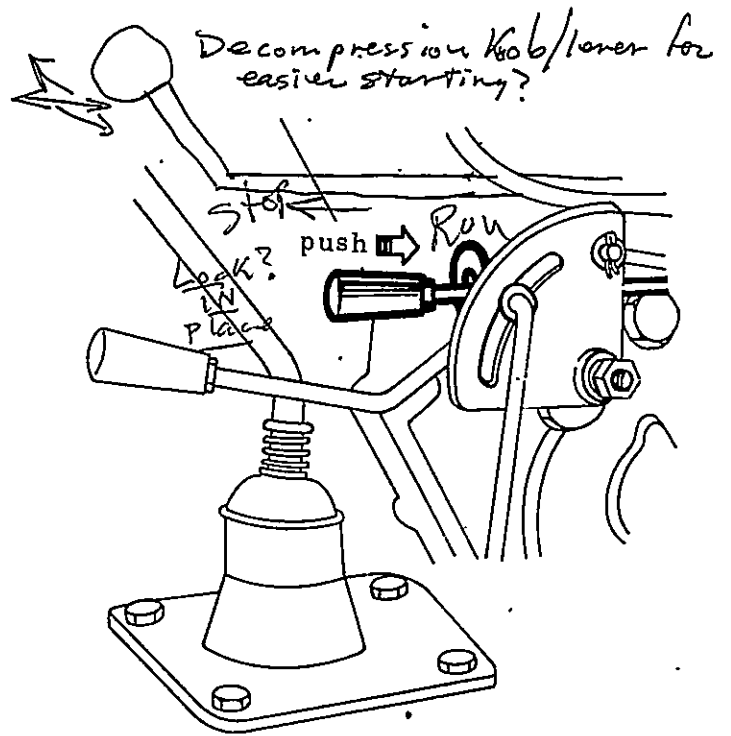

Fig. 3-7
d. Set the engine stopping lever at the supply position. (see Fig. 3-7)
- 4) Pull out the engine stopping lever so that the pump stops delivering the fuel and the engine stops. Then put the lever back at the position of delivering fuel. (see Fig. 3-7)